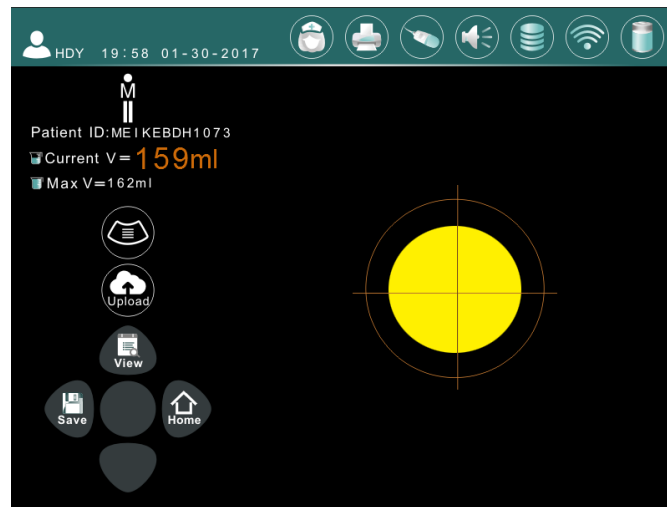

Figure 7-9 The interface effect of the scan results
7.6.1 The interface effect of the scan results is shown in figure 7-9, indicating the current measurement result value and position prompt.